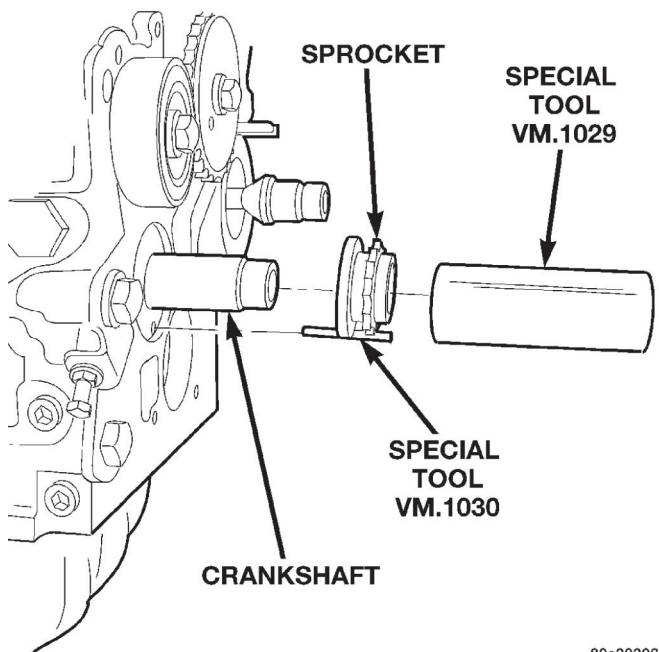

Fig. 49 Crankshaft Sprocket—Installation
(1) Install crankshaft sprocket alignment pin VM.1030 into hole in crankshaft (Fig. 49).